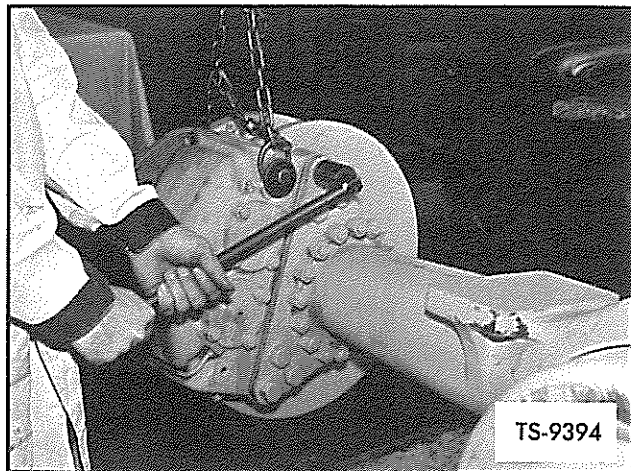

Fig. 11. Attach Hoist and Remove Mounting Bolts
1. With machine securely blocked and wheel and tire assembly removed, attach a chain hoist to brake head assembly with bolts and flatwashers through drilled and tapped holes in retaining pins as illustrated in Figure 11, then remove mounting bolts.